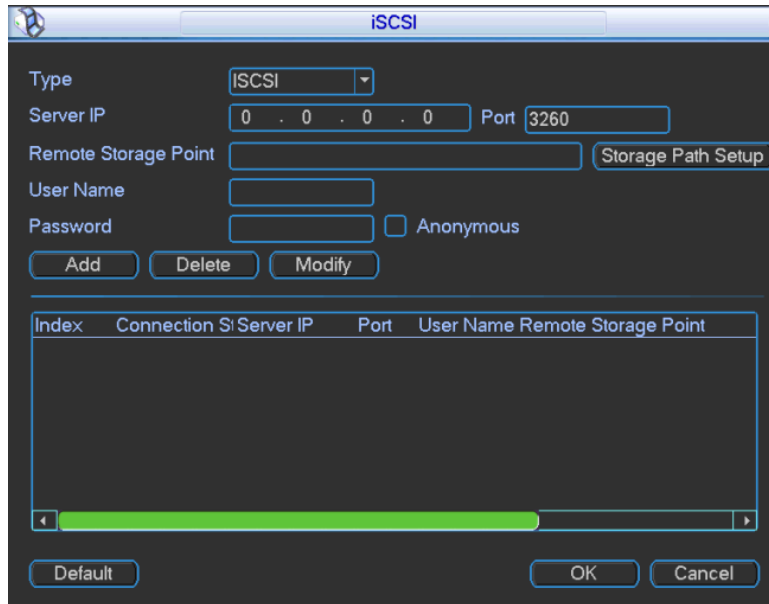

Figure 3-48
Step 1 In main menu, select “Setup> Network> Network Setup > iSICI”, and the system displays “iSICI” interface, as shown in Figure 3-48.